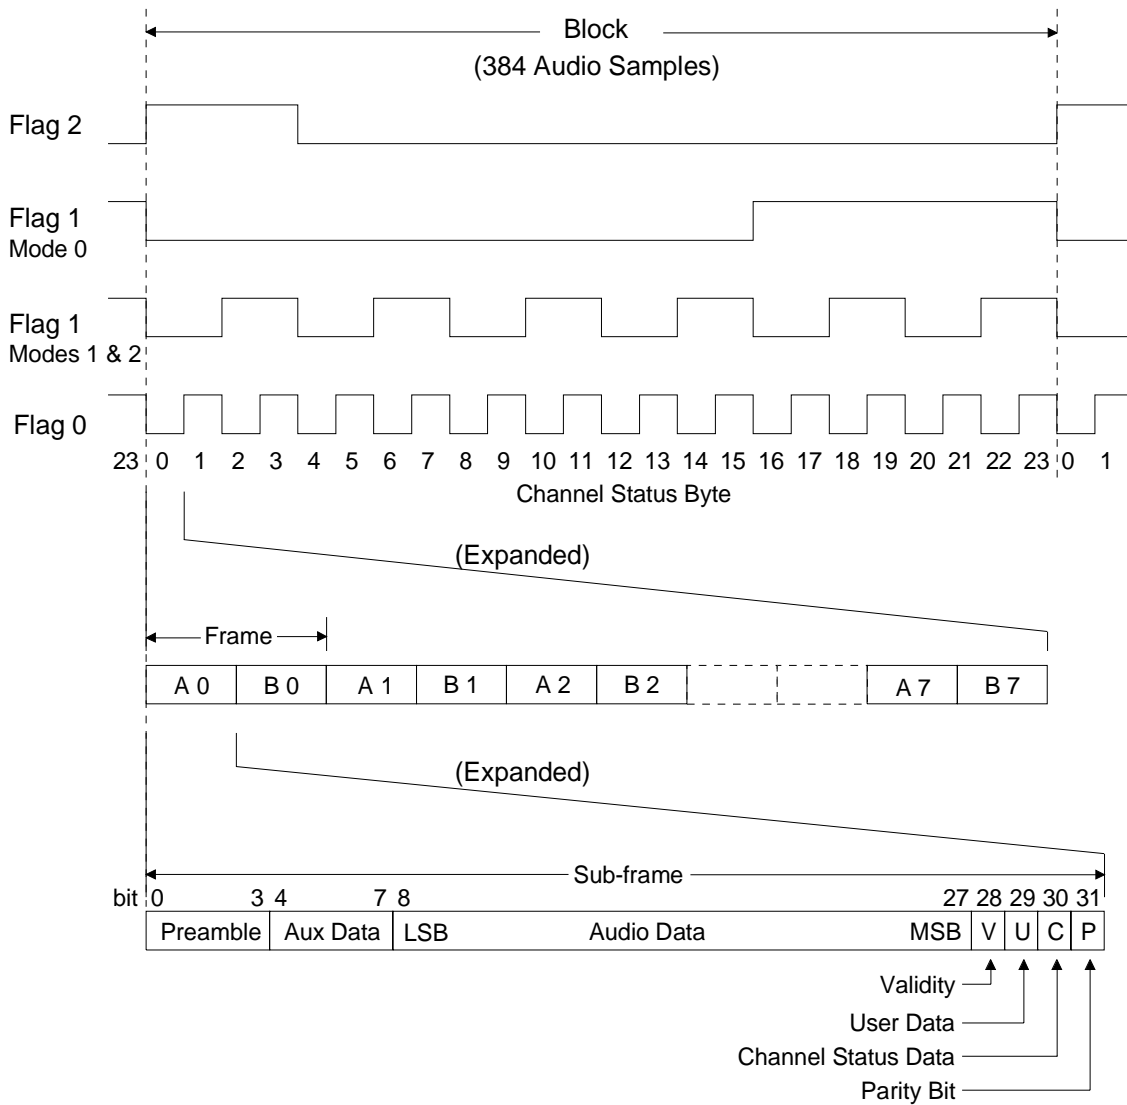

Figure 11. CS8411 Status Register Flag Timing
- FLAG1: Memory mode dependent - See Figure .11
Figure 11 illustrates the flag timing for an entire channel status block which includes 24 bytes of channel status data per channel and 384 audio samples. The lower portion of Figure 11 expands the first byte of channel status showing eight pairs of